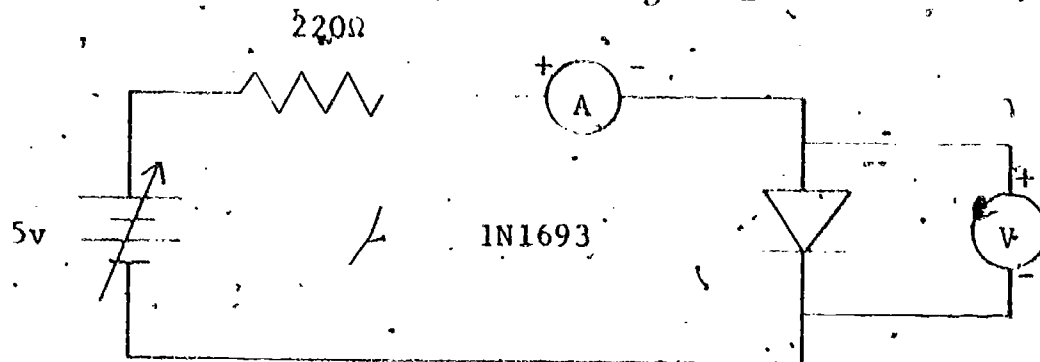

Figure 2 - Circuit used to obtain data to plot IV curve of diode
1. Construct the circuit of Figure 2
3. Plot diode current versus diode voltage. This results in the IV characteristic of the PN junction diode. We should note that the PN junction diode is a temperature dependent device and applying a voltage across it as in Figure 2, will heat the diode. The increase in temperature will change the diode's characteristics. Later we will show how to avoid this heating effect by obtaining the IV characteristic with sweep techniques.